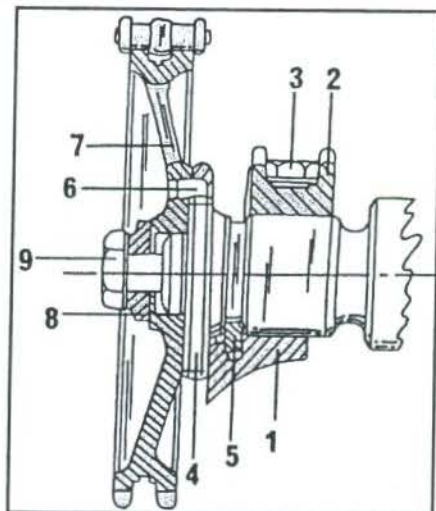

Fig. 1.74 – Sectional view of the camshaft end of the cylinder head.
- Remove the locating collar from the cylinder head. Fig. 1.74 shows a sectional view of the cylinder head at the camshaft end with the location of the collar. The collar serves to locate the camshaft in axial direction.